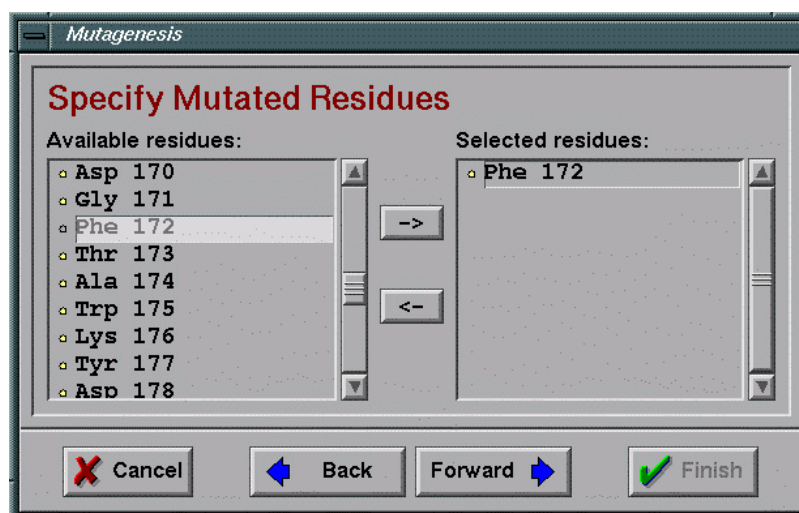

Fig 12.9 Window for specification of residues for mutagenesis
- 6) Specify the residues to be mutated (**Fig 12.9**). From the window showing all available residues choose those you want to mutate and press the button with $\rightarrow$. Selected residues will move into *Selected residues* window. If you select wrong residue, you can remove it from this list by selecting it and pressing the button with $\leftarrow$.